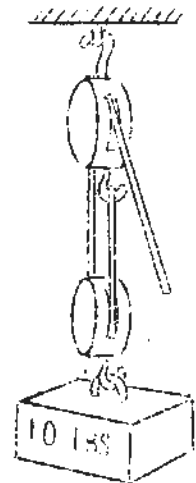

Fig. 9
39. To balance the 10-lb. weight in Fig. 9, the end of the rope must be pulled downward with a force of: